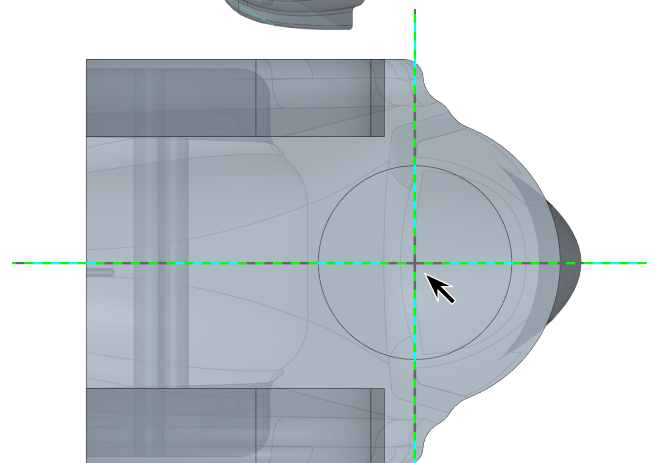

Fig. 20
Step 2. Confirm Origin is in **center of cartridge hole**, **Fig. 20**.